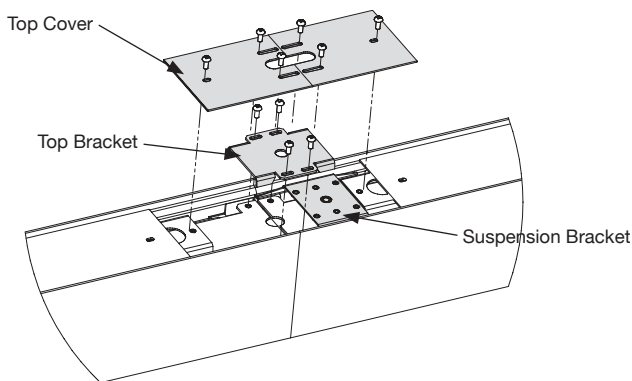

Fig. 1 - Continuous Run - Top Bracket
- Remove the screws and top covers on both sides of the fixture joint in order to expose the inner fastening brackets (Fig. 1).
- Using the two mounted alignment plates (see Fig. 1), manually join the two fixtures.
- From the top of the fixture, connect and fasten the top brackets using two supplied #6-32 screws (Fig. 1).